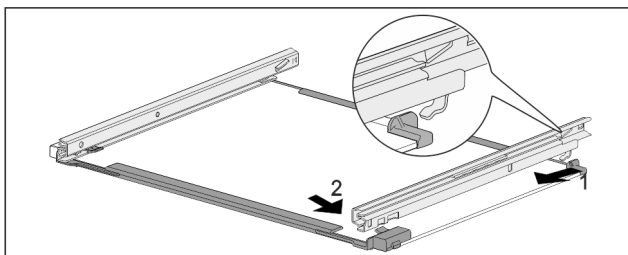

Fig. 74 Glass shelf with rails
- ▶ Hook in rail at the back. Fig. 74 (1)
- ▶ Hook in rail at the front. Fig. 74 (2)